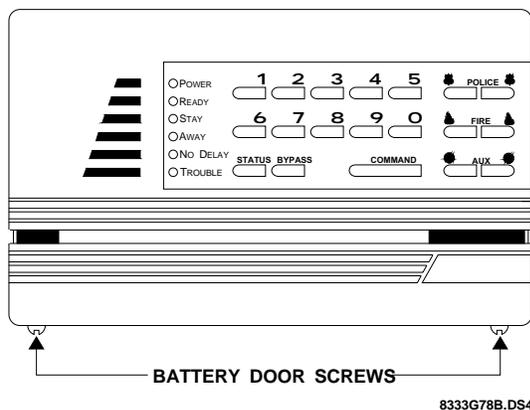

Figure 1. Loosen the two battery door screws
- 1) Loosen the two screws on the bottom of the panel until you can slide the battery door down and out (see Figure 1). Two full turns should be enough to allow you to remove the battery door without removing the screws completely.